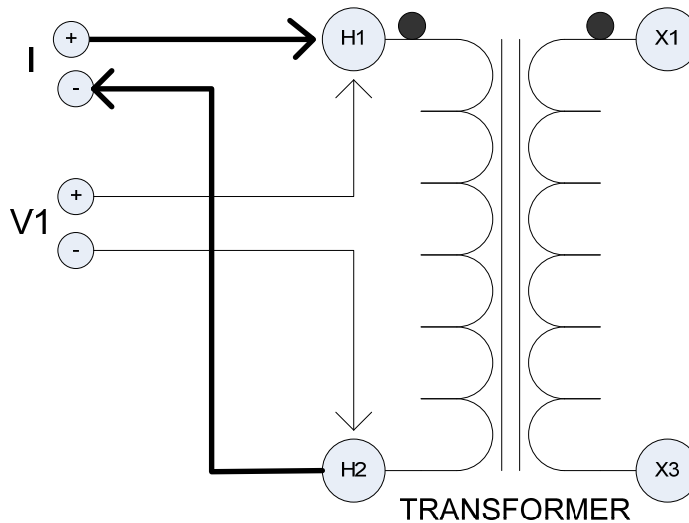

Figure 2: Single Winding Measurement
4. Connect "V1" voltage leads to test specimen winding. Do not clip potential leads on the current leads, since this will add contact resistance to the measurement. See Figure 2.
Connect current output (I) to test specimen winding. See Figure 2.